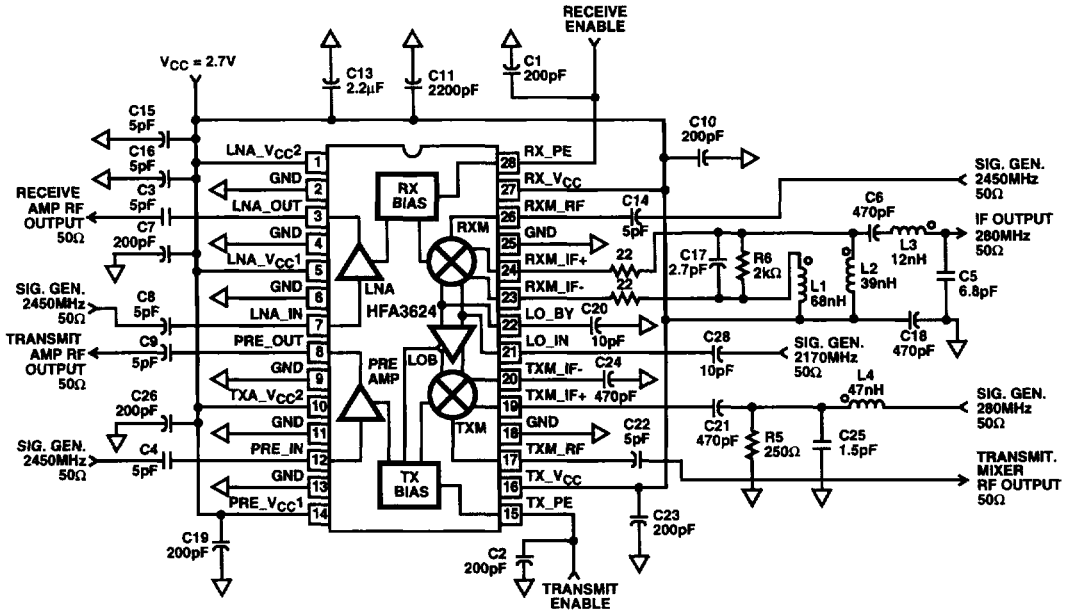

FIGURE 5. OPTIMIZED LAB EVALUATION CIRCUIT
2. See Figure 5 Test Circuit for 50Ω IF matching network component values.
4. Transmit mixer measured with Impedance Transform Network 250Ω at device to 50Ω at the source. Refer to Figure 5, pin 19.
5. Implied limit, production measurement uses 50Ω termination at pin 19 (RSIF = 50Ω). Typical transmit conversion gain increase of 5.5dB with application circuit Figure 5 (RSIF = 250Ω).
7. Enable/Disable Time Specifications are tested with the external component values shown in the Figure 5 Test Circuit, with an IF frequency of 280MHz. Specifically the AC coupling capacitors on the TXM_IF+ and TXM_IF- pins are biased up to operating voltage from a fixed internal current source at power up. Increasing these AC coupling capacitors above 1000pF will slow Enable Time proportionately.
NOTE: Transmit mixer measured with Impedance Transform Network 250 Ω at device to 50 Ω at the source. Refer to Figure 5, pin 19.
NOTE: Transmit mixer measured with Impedance Transform Network 250Ω at device to 50Ω at the source. Refer to Figure 5, pin 19.